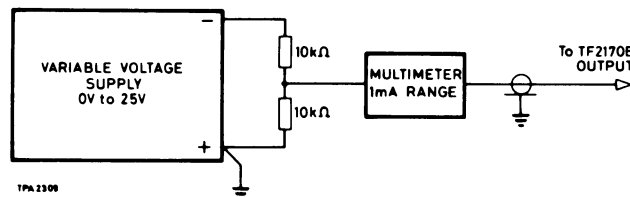

Fig. 4.16 Test Circuit
3. Connect the TF 2170B output to the test circuit shown in Fig. 4.16.